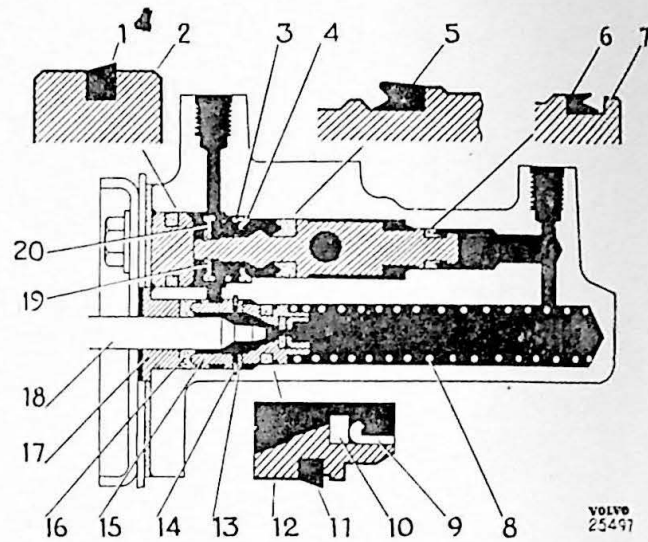

Fig. 7-25. Hydraulic control parts
3. Remove the cover (7) from the valve housing (6). Unscrew the bolts (10) and lift out the yoke (11), spring (4) and valve arm (3).
4. Remove the packing (27) and strike the housing against a wooden object so that the plug (2, Fig. 7-25) falls out. Remove the control plunger (7).
5. Remove the sleeve (17), packing (16) and spacing sleeve (15). Remove the locking ring (14) with a pair of suitable pliers and lift out the other parts.
1. Take a new plunger (12, Fig. 7-25) with inner packing (10) fitted. Fit the plunger packing (11) and turn it as shown in the figure. Place the spring (8) on the plunger. Dip the plunger in brake fluid and insert the unit into the cylinder. Fit the washer (13) and press it in so that a new locking ring (14) can be fitted. Place the packing (16) on the spacing sleeve (15) and fit in. Place the sleeve (17) in position.
2. Place the packings (5 and 6) onto the control plunger and turn them as shown in the figure. Fit washers, spring (3) and locking ring (19). Dip the plunger in brake fluid and fit it as shown in Fig. 7-25. Turn the plunger so that the valve arm (3, Fig. 7-5) can be fitted in its hole.
4. Place the packing (1) on the plug (2) and fit it so that the packing flange comes inwards, see Fig. 7-25. Let the plug project about 1/16" (1—2 mm) outside the flange. Place the plate (21, Fig. 7-5) onto the vacuum line and the new gasket (27), cylinder (24) and plate (25) into their positions and insert the connecting pipe (23) through the rubber bushing (18). Tighten the three bolts (26) to a torque of 10—12 lb.ft. (1.4—1.8 kgm).